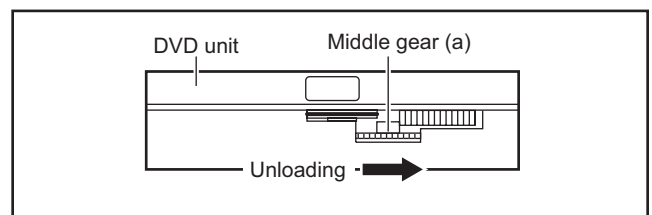

Fig.5-2a
- (1) Unplug the power cord plug from the power outlet.
- (2) Remove the top cover and front panel assembly. (Refer to the disassembly procedure and perform the dis-assembly of the major parts before removing)
- (3) Turn the Middle gear (a) by hand to open the disk tray. (See Fig. 5-2a)